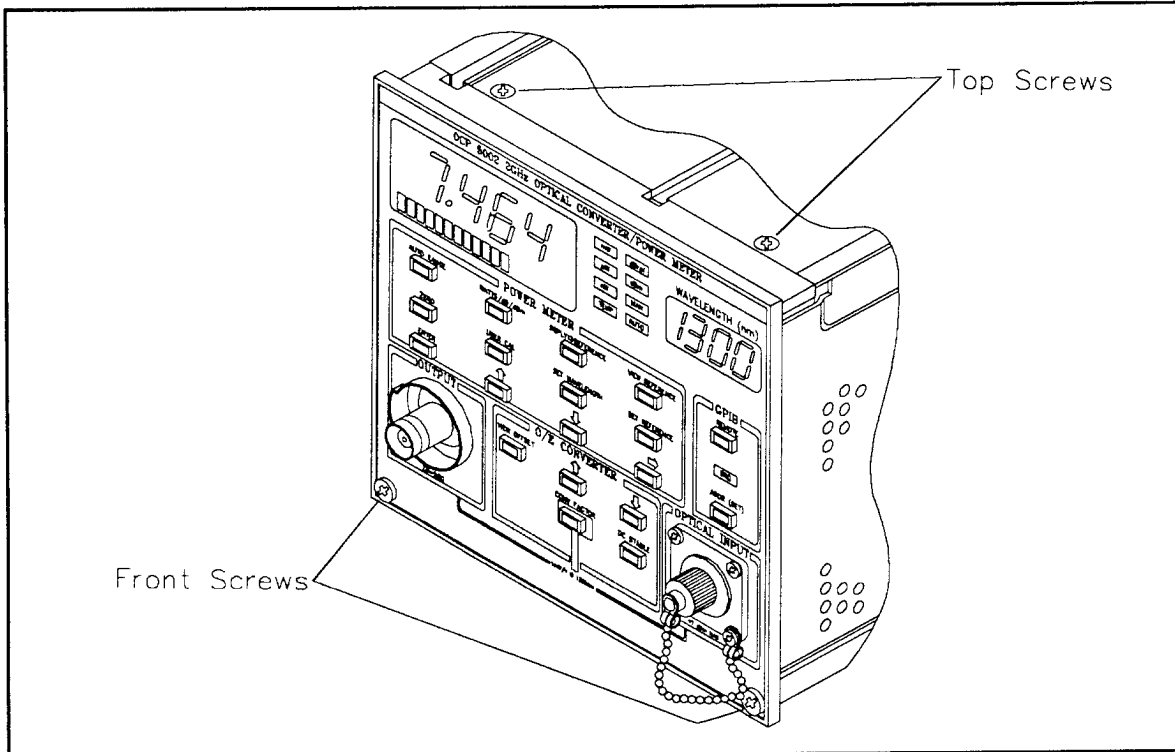

Figure 5-9. Location of Front Panel Screws.
3. To remove the latch bar, remove the front panel by unscrewing the two top screws and the two front screws shown in Figure 5-9. Pull the front panel out just enough to remove the latch bar (about 1/2").